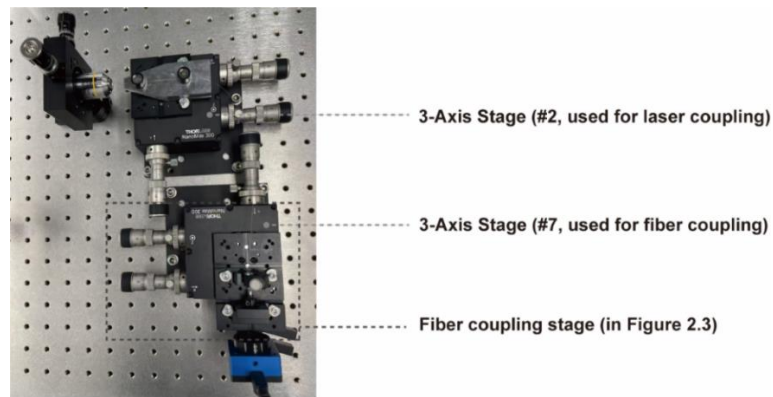

Figure 2.4 Two 3-axis stages used in the setup; a short-length fiber used here for visualization.
Step 14. Mount the other end of the fiber onto the second 3-axis stage and couple the laser into the fiber following a protocol similar to Step 4 (Figure 2.4).